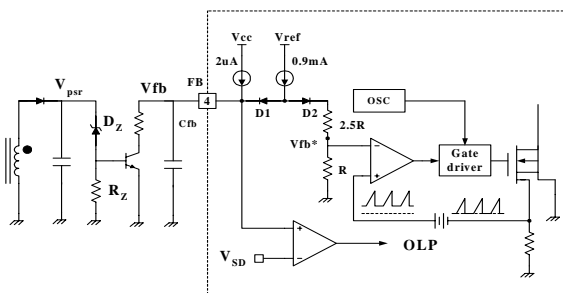

Figure 2. Primary side control circuit
2. Feedback Control : FS8S0765RCB employs primary side regulation, which permits elimination of feedback circuit components in the secondary side such as opto coupler and TL431. Figure 2 shows the primary side control circuit. The primary side regulation voltage (V_{psr}) is controlled to the breakdown voltage of zener diode (D_z). Because current mode control is employed, the drain current of the power MOSFET is limited by the inverting input of PWM comparator (V_{fb}^*). When MOSFET turns on, usually there exists high current spike in the MOSFET current caused by primary-side capacitance and secondary-side rectifier reverse recovery. In order to prevent premature termination of the switching pulse due to the current spike, the FPS employs leading edge blanking (LEB). The leading edge blanking circuit inhibits the PWM comparator for a short time after the MOSFET is turned on.